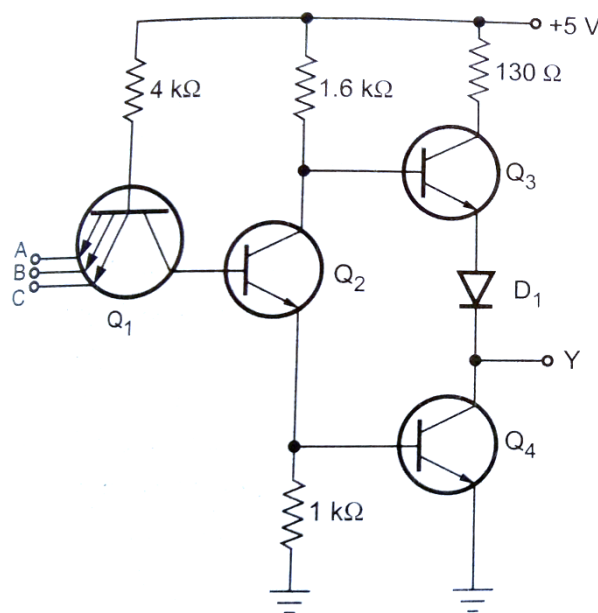

Figure 1.12: Three input TTL NAND gate
- The figure 1.12 shows the three input TTL NAND gate. It is same as that of two input TTL NAND gate except that it's Q1 (NPN) transistor has three emitters instead of two. Rest of the circuit is same.